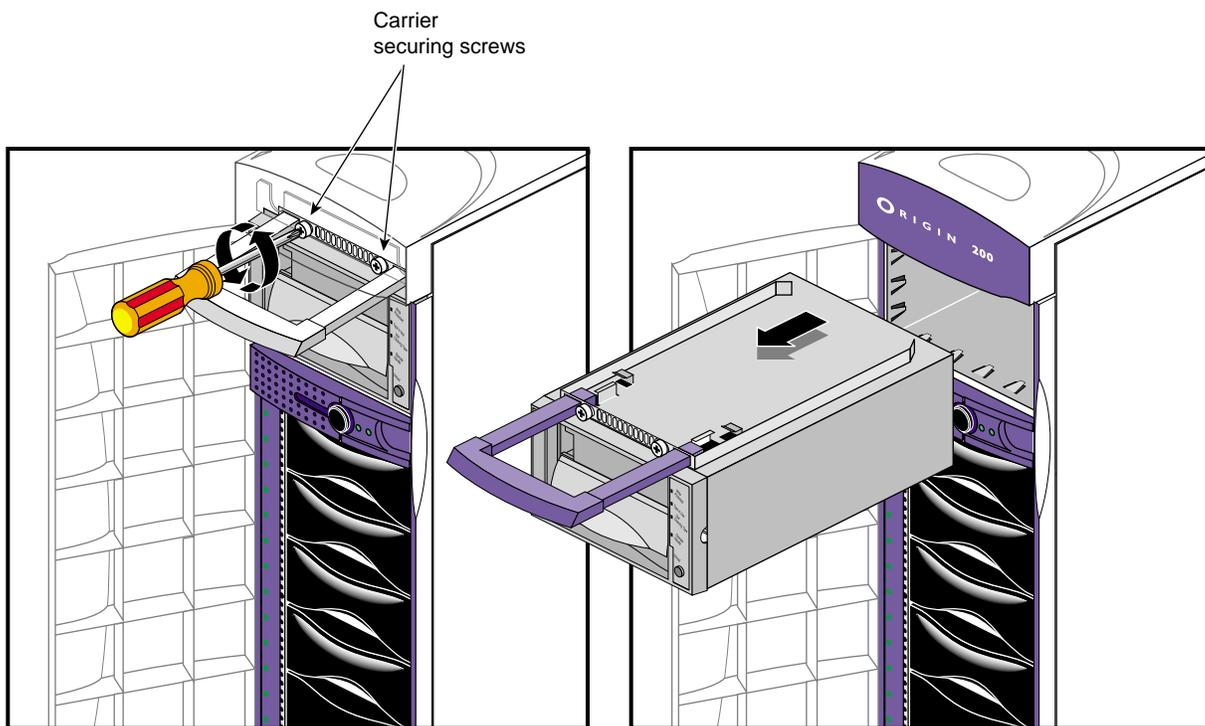

Figure 2-7 Removing an Existing Peripheral Carrier
1. Use a #2 Phillips screwdriver to unscrew the two screws that secure the front of the peripheral carrier to the Origin Vault or Origin200 chassis, as shown in Figure 2-7. Reserve the screws.
3. Pull the carrier out of the bay, supporting it with your free hand (see Figure 2-7).